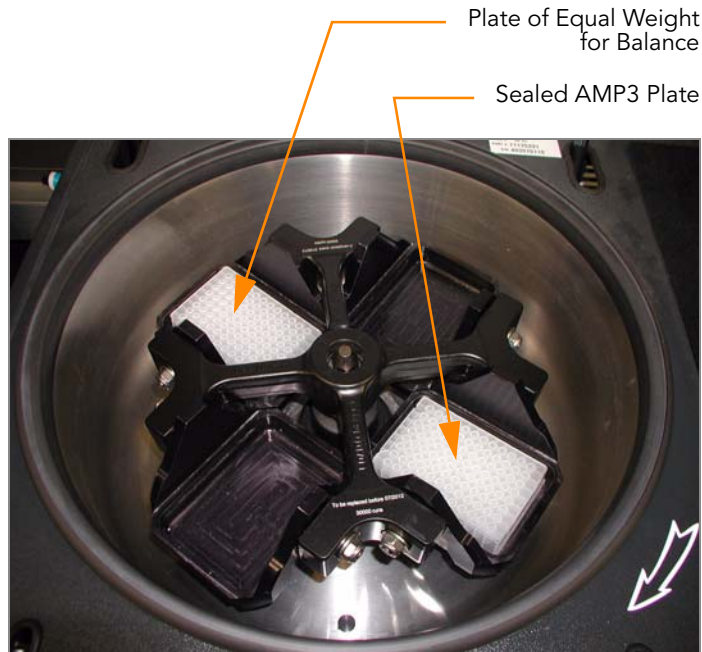

Figure 28 Balancing AMP3 Plate in Centrifuge
10. Place the sealed AMP3 plate in the centrifuge opposite another plate of equal weight (Figure 28).